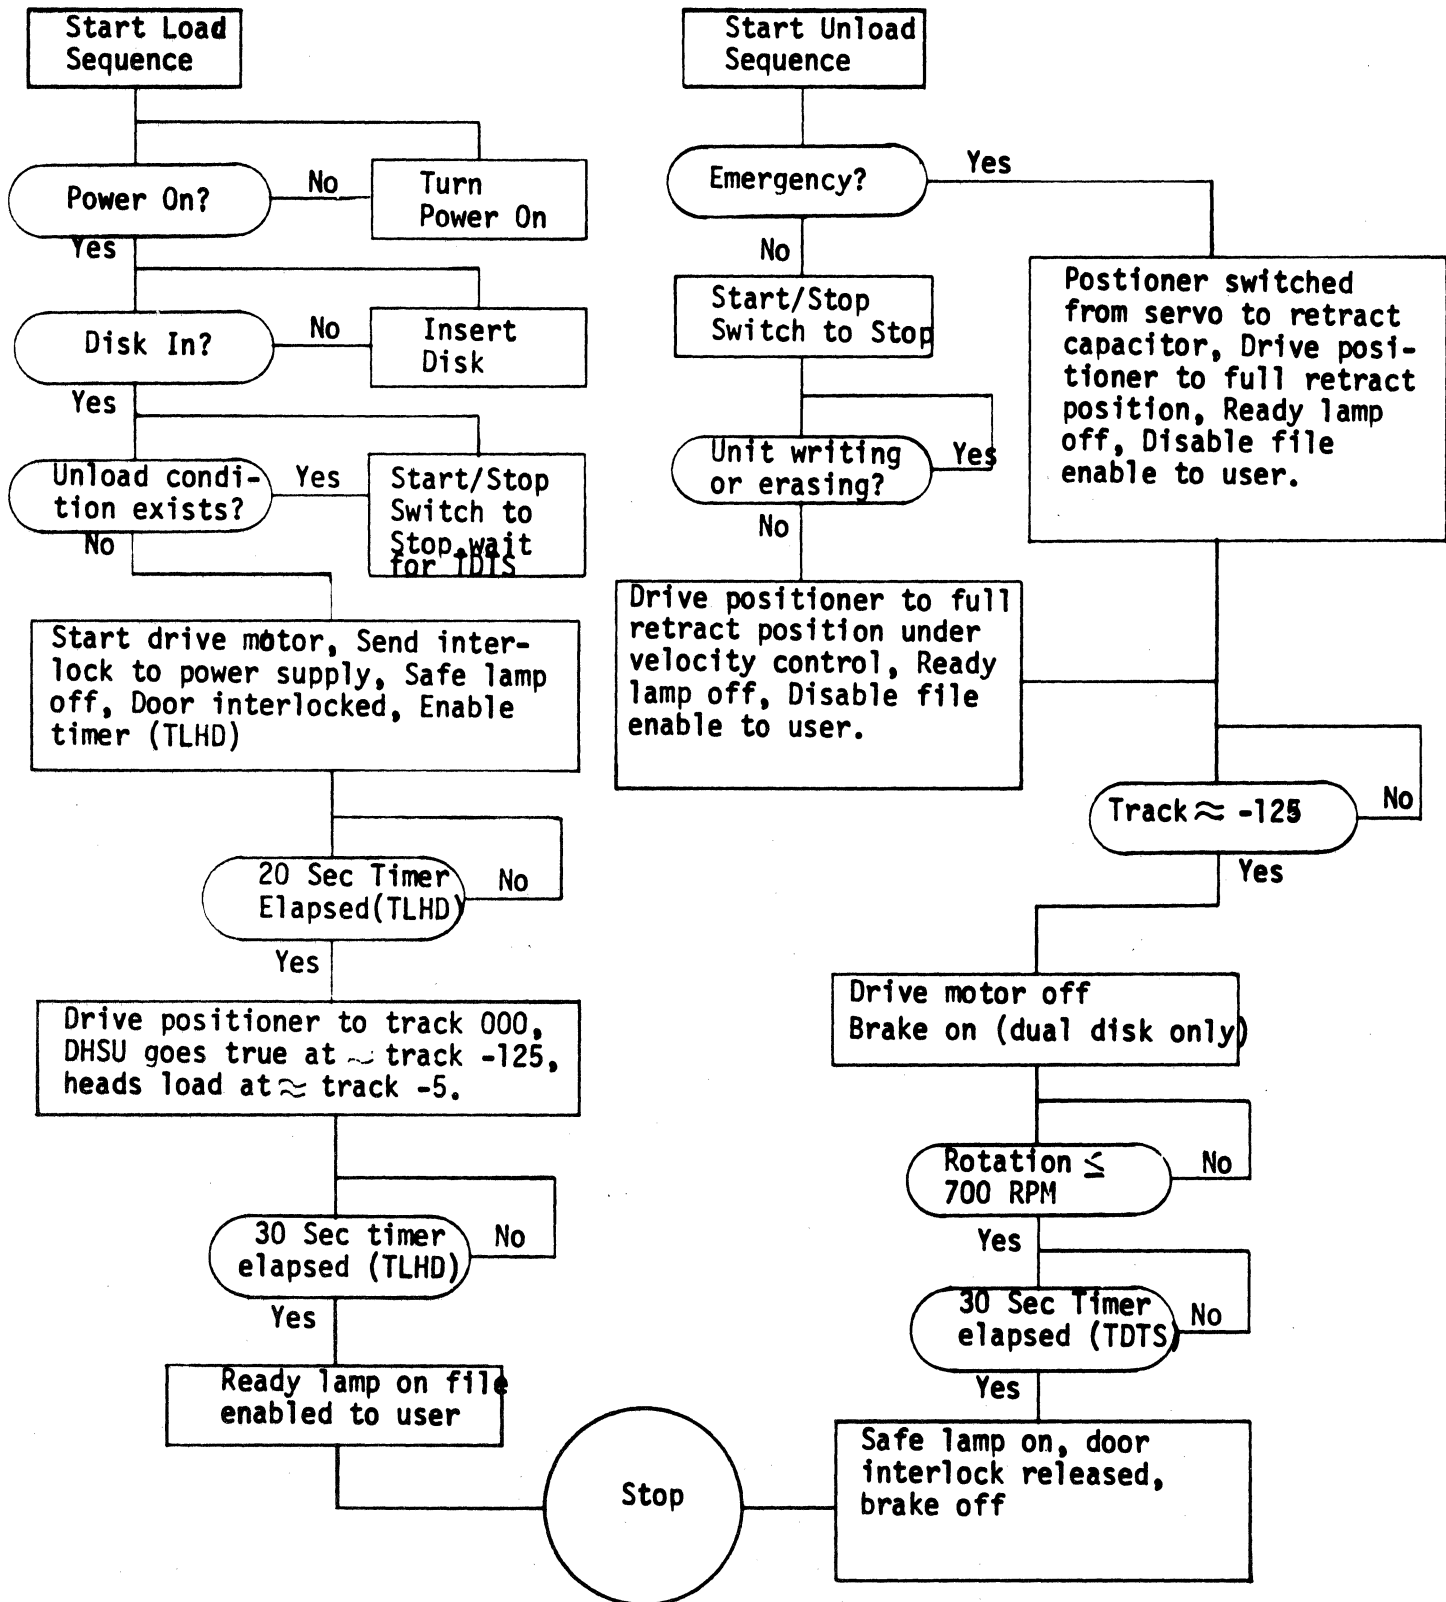

Figure 4-2. Logic Flow Chart
4.8.2 LOGIC LOAD SEQUENCE (The following logic is performed on MB 3 in slot 23 unless otherwise noted. Refer to Figure 4-2.)
4.8.3 LOGIC UNLOAD SEQUENCE (The following logic is performed on MB3 in slot 23 unless otherwise noted. Refer to Figure 4-2)